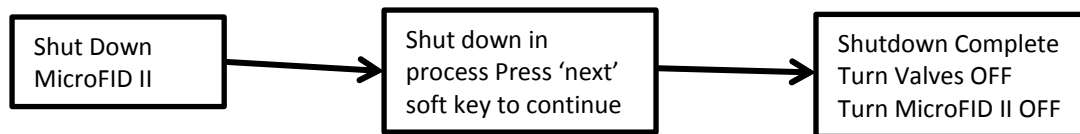

Figure 15. Shut Down MicroFID II Menu
10. To turn off the MicroFID II, follow the steps shown on the Shut Down MicroFID II Menu, Figure 15 in Chapter 3 User Functions."